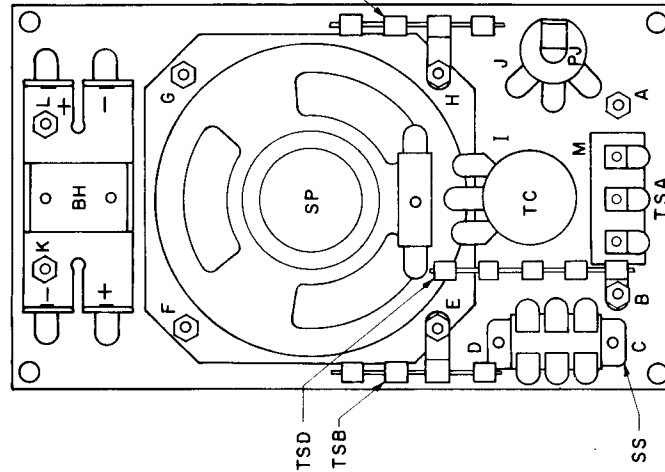

FIG. 1 - BACK VIEW OF PANEL
- (✓) 1. Install the DPDT slide switch into rectangular hole M, using two 4-40X 1/4" Phillips screws through holes C and D. (See figure 1.) If there are no threads in the switch holes install 4 - 40 nuts on the screws.
- (✓) 2. Install one 4-40 x 1/4" Phillips screw in hole F. (See figure 1.) Install the speaker grill at the back of the panel over the large round hole so that one of the corner holes goes over the screw. Mount the speaker over the grill so that the terminals on the speaker are positioned as shown in figure 1 and the corner hole in the speaker fits over the screw. Install one 4-40 nut over the Phillips screw in hole F. (Hand tighten.)
- (✓) 4. Install one 4-40 x 1/4" Phillips screw into hole H. Mount the 4 lug terminal strip, TSC (third lug grounded) over the screw. (See figure 1.) Install one 4-40 nut over the screw (Hand tighten.)
- (✓) 5. Install one 4-40 x 1/4" Phillips screw into hole E. Mount the 4 lug terminal strip, TSB (second lug grounded) over the screw. (See figure 1.) Install one 4-40 nut over the screw. (Tighten all four screws holding the speaker.)
- (✓) 6. Mount the 3 screw terminal strip (TSA) by putting it on the front of the panel over hole M. The solder lugs on the inside of the terminal strip should face down. (See figure 1.) Install one 4-40 x 1/4" Phillips screw through hole A. Install one 4-40 nut onto the screw and hand tighten.
- (✓) 7. Install one 4-40 x 1/4" Phillips screw, through hole B and mount the 5 lug terminal strip (TSD) over the screw, as shown in figure 1. Install one 4-40 nut. Tighten both screws on the 3 screw terminal strip.
- (✓) 8. ~~Install one 4-40 x 1/4" Phillips screw in hole K. Install a 4-40 nut and tighten. Install one 4-40 x 1/4"~~ Phillips screw in hole L. Install a 4-40 nut and tighten. Mount the battery holder (BH) over both screws (See figure 1.) Install two small 4-40 nuts, one on each screw and tighten.
- (✓) 9. Install the tone control (TC) into hole I and position it as shown in figure 1. Use a 3/8" lockwasher on the inside of the panel and a 3/8" nut on the outside.
- (✓) 11. Remove the nut and washer from the closed circuit phone jack (PJ). Install one 3/8" nut onto the jack and turn it all the way down. Install the jack into hole J and position it as shown in figure 1. Install the flat washer and nut (which were originally removed from the jack) over the jack from the outside of the panel.